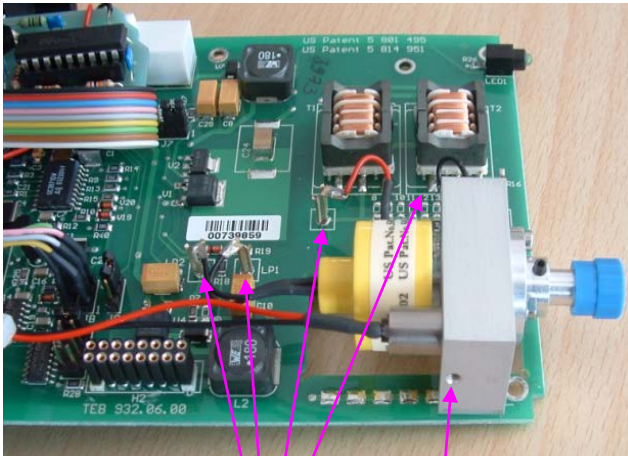

Figure 1
4. Disconnect the four (4) cables of the Deuterium-Halogen lamp
5. Loosen the screw at the bulb housing by the tool delivered with the spare bulb (see figure 1)